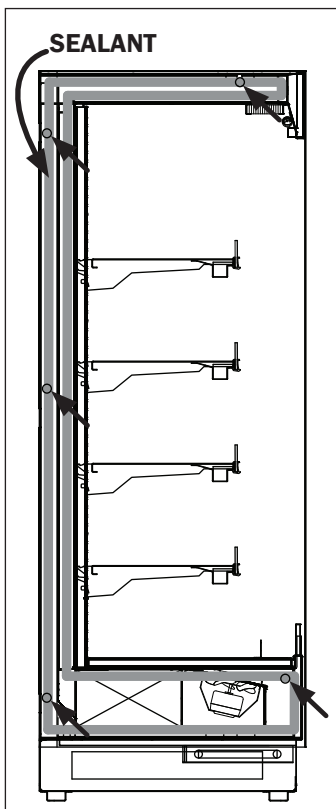

Fig. 2 Sealant and bolt locations
4. Push the cases tightly together, then lightly bolt them together through the holes provided (Fig. 2). Tighten all the joining bolts until all margins are equal. Be careful not to over tighten.